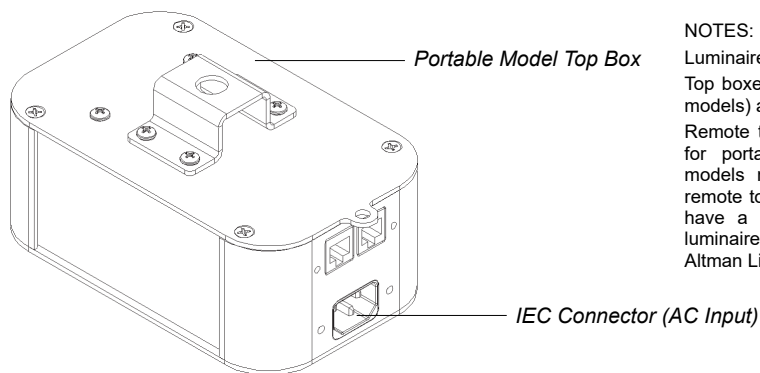

Figure 9: IEC Connector - Portable Models
Step 2. As illustrated in **Figure 9 on page 11**, position AC input cable in direct relation to the IEC connector on the side luminaire top box assembly.